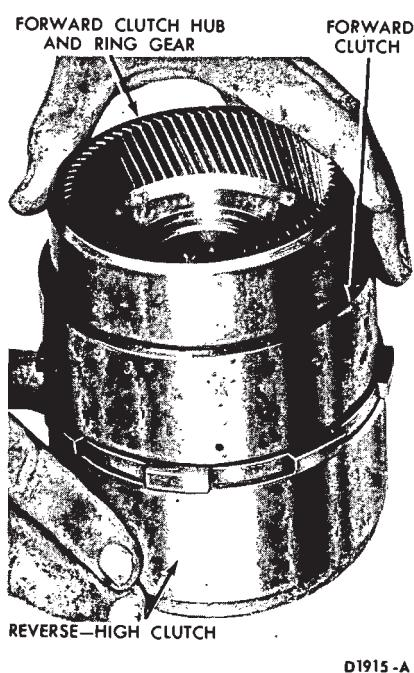

FIG. 106—Installing Forward Clutch Hub and Ring Gear
25. Install the forward clutch hub and ring in the forward clutch by rotating the units to mesh the forward clutch plates with the splines on the forward clutch hub (Fig. 106).